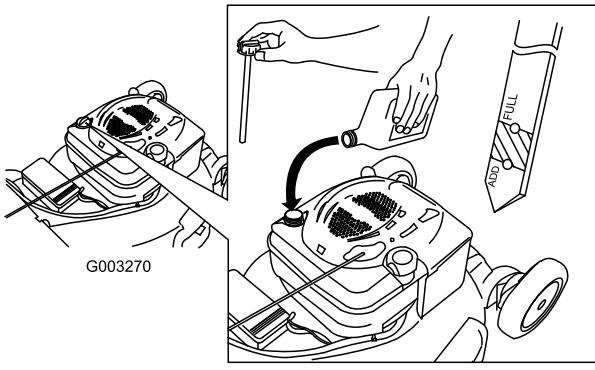

Figure 6
1. Remove the dipstick (Figure 6).
2. Slowly pour oil into the oil fill tube until the oil level reaches the Full line on the dipstick (Figure 6). **Do not overfill.** (Max. fill: 20 oz. (0.59 l), type: SAE 30 detergent oil with an API service classification of SF, SG, SH, SJ, SL, or higher.)